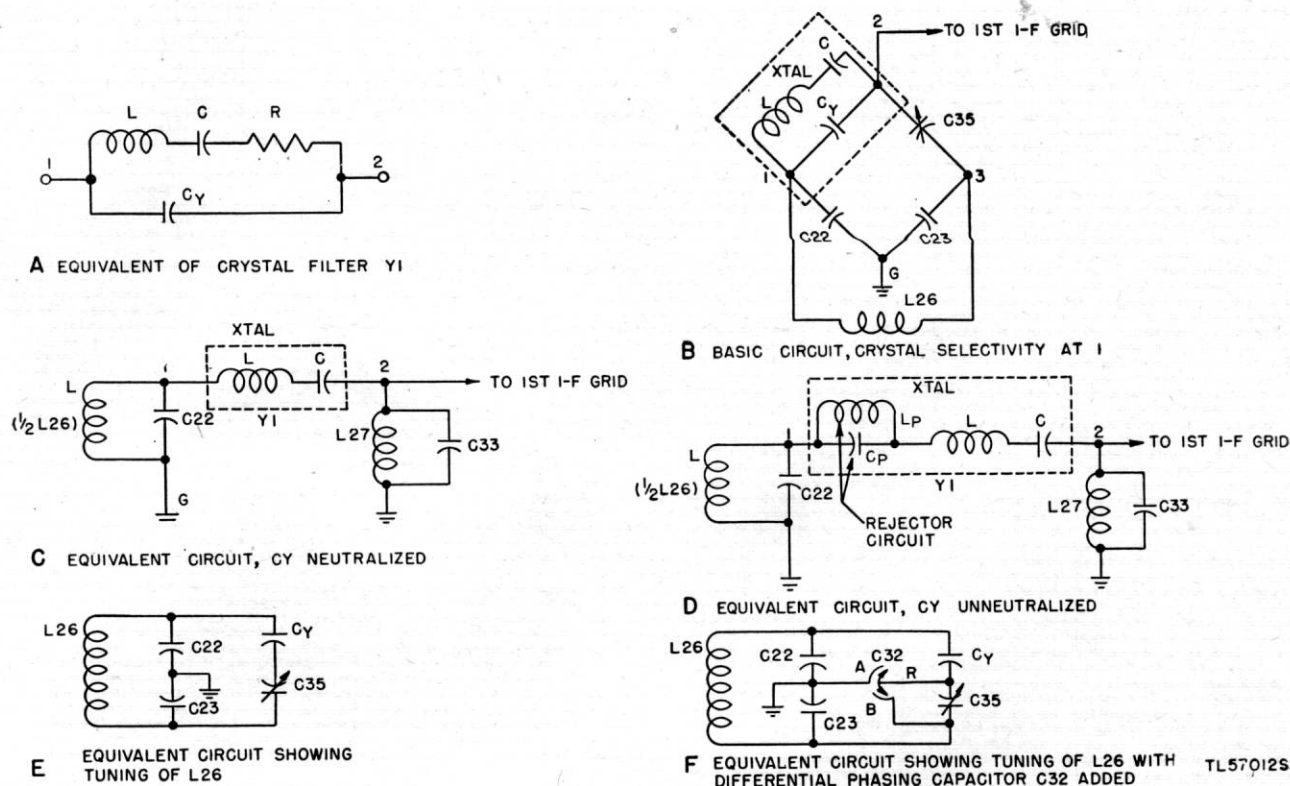

Figure 28. Radio Receiver BC-779-B, functional and equivalent diagrams of crystal filter circuit.
(4) Refer to appendix III for circuit details of Improvement Kit MC-531.
61. Crystal Filter (fig. 28)
a. EQUIVALENT CRYSTAL CIRCUIT. The equivalent electrical circuit of a crystal is shown in "A," figure 28. The circuit, and hence the crystal, are resonant at two frequencies: The frequency at which the reactance of L is equal to the reactance of C (series resonance), and the frequency at which the effective reactance of L-C (in series) is *inductive* and *equal* to the capacitive reactance of C_Y (parallel resonance). At the series-resonant frequency the crystal acts as a low-impedance connection between 1 and 2. At the parallel-resonant frequency the crystal acts as a high impedance between 1 and 2.
b. BASIC FILTER CIRCUIT ("B," fig. 28). Capacitors C22 and C23 (100 mmF each) are connected in series across the secondary of i-f input transformer L26, and their junction is grounded to provide a midpoint connection in the resonant circuit L26-C22-C23. Consequently, the capacitor voltages are always of equal amplitude but 180° out of phase. Phasing capacitor C35 (1.5 to 5 mmF) is connected between 3 and 2, and the crystal is connected between 1 and 2.
c. NEUTRALIZATION OF C_Y . Capacitors C22, C23, C35, and C_Y (the capacity between the crystal holder plates) form a capacity bridge; the input is applied to 1 and 3, the output is taken from 2 and G. When capacitor C35 is adjusted so that its capacitance is equal to that of C_Y , the voltage coupled from 3 through C35 to 2 is equal and opposite to the voltage coupled from 1 through C_Y to 2. Under this condition C_Y is neutralized and the crystal acts as a series-resonant circuit only ("C," fig. 28). Since the crystal is resonant at the intermediate frequency, there is (in effect) a direct connection between 1 and 2. As indicated in "C," figure 28, only the voltage across C22 (one-half the secondary voltage) is applied through the crystal to the grid circuit of the first i-f stage.
tance of $L-C$ and the capacitive reactance of C_Y . For simplicity the parallel-resonant circuit is denoted as rejector circuit $L_P C_P$ in "D," figure 28. L_P and C_P denote the effective inductance and capacitance at the parallel-resonant frequency. L and C indicate the effective inductance and capacitance of the crystal at the series-resonant frequency, in this case the 465-kc i-f. In other words, unless C_Y is neutralized, the crystal acts simultaneously as a parallel- and series-resonant circuit. The parallel-resonant circuit $L_P C_P$ has no effect on the 465-kc i-f. but presents a high impedance to, and therefore rejects, the frequency to which $L_P C_P$ is resonant. L and C present extremely low impedance to the 465-kc i-f signal voltage and high impedance to voltages at different frequencies. *With underneutralization the resonant frequency of $L_P C_P$ is higher than 465 kc.*
f. CAPACITOR C32. Capacitor C_{35} , in series with capacitance C_Y , is across L_{26} and affects its tuning ("E," fig. 28). To avoid the detuning effect and to enable shifting the rejection frequency to either side of the i-f., differential PHASING capacitor C_{32} ("F," fig. 28) is used in the radio receiver. Stator sections A and B are so arranged that, as rotor R is turned out of one stator into the other, the capacitance of the first *decreases* by the same amount that the capacitance of the second *increases*. Thus, whether the rotor is entirely engaged in stator A, is at a midpoint, or is entirely in stator B, the effective capacitance across A-B, and therefore across L_{26} , remains constant. Assume that C_{32} , the PHASING capacitor, is set at the arrow position of the PHASING control on the front panel and
(2) CRYSTAL SELECTIVITY switch at 1. When CRYSTAL SELECTIVITY switch SW7 is placed at 1, the short is removed from the crystal. If the secondary of L26 and the parallel-resonant grid circuit, L27-C33, are tuned to 465 kc, each is the equivalent of a high resistance in series with the equivalent series-resonant circuit of the crystal ("C," fig. 28). Consequently, the *Q* and therefore the selectivity of the series-resonant (crystal) filter circuit is reduced, and the bandwidth is several kilocycles wider than that of the crystal *alone*.
(3) CRYSTAL SELECTIVITY at 2, 3, 4, or 5. Advancing the CRYSTAL SELECTIVITY switch